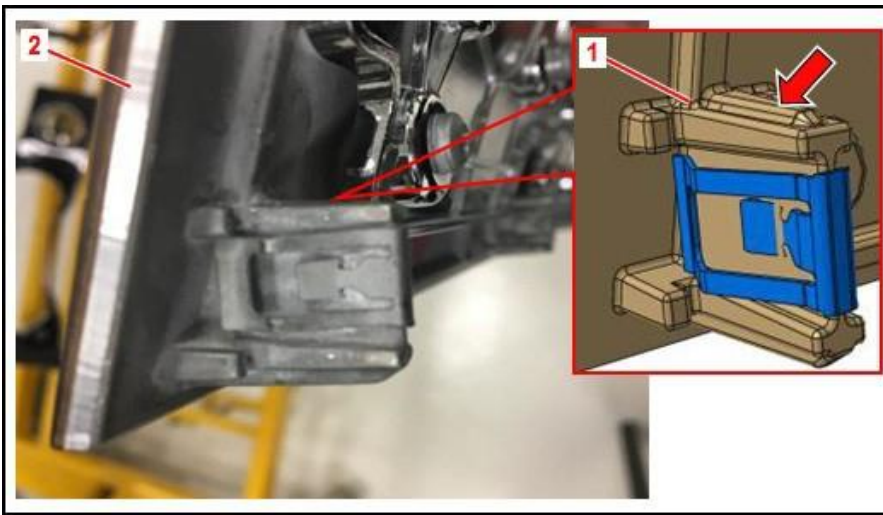

Figure 8
Carefully file the ribs (arrow) on TOP of the lowermost outer locators pin/s (1) of the fascia panel casting (2), to leave them flat and smooth. See Figure 8.